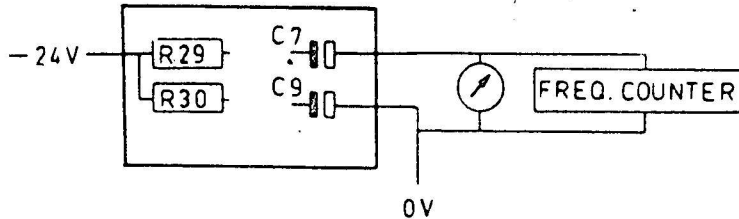

Fig. 32
- . Connect the oscillator as shown in Fig. 32.